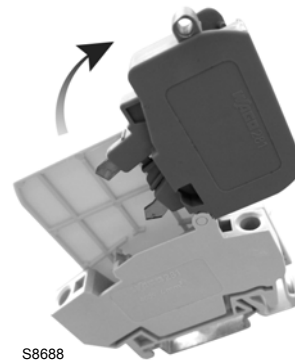

Fig. 29
- unhook as indicated in Fig. 29;